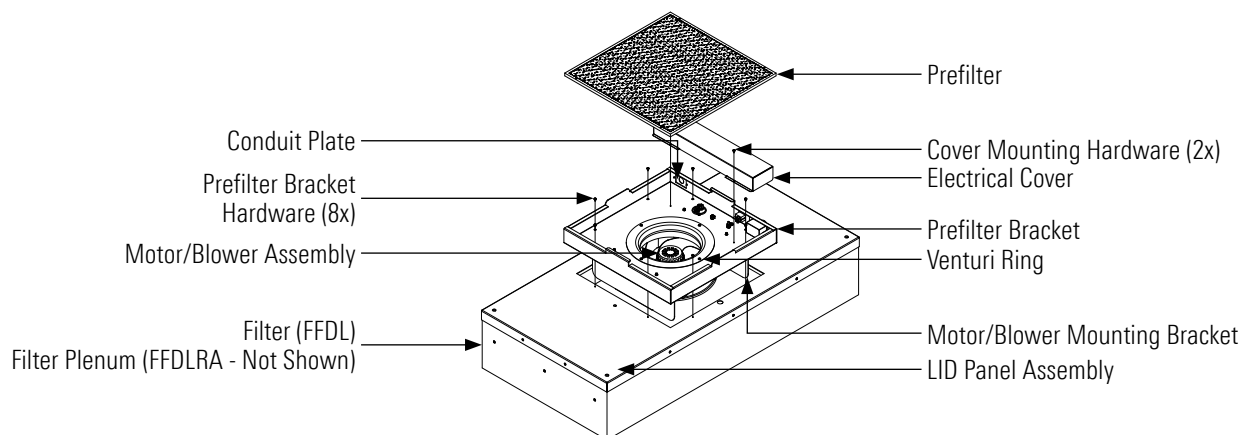

FIGURE 9.1: FFDL MOTOR REPLACEMENT
- Step 4.** Loosen the electrical cover screws (two), and slide/lift off cover. (See Figure 9.1.)
- Step 7.** Remove the eight screws to free the motor/blower assembly from the lid assembly. If using power drivers, set the unit to a low torque setting to avoid stripping the sheet metal screws (See Figure 9.1.)